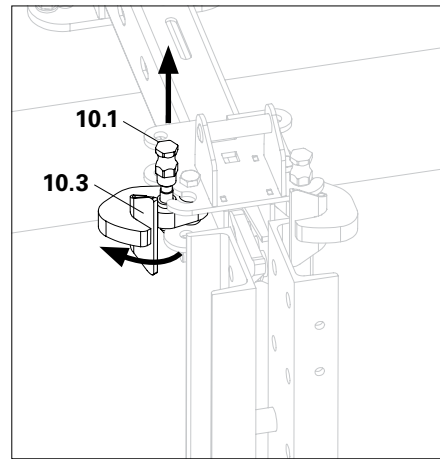

Fig. D2.02a
2. Fold open guiding skid (10.3). (Fig. D2.02a)